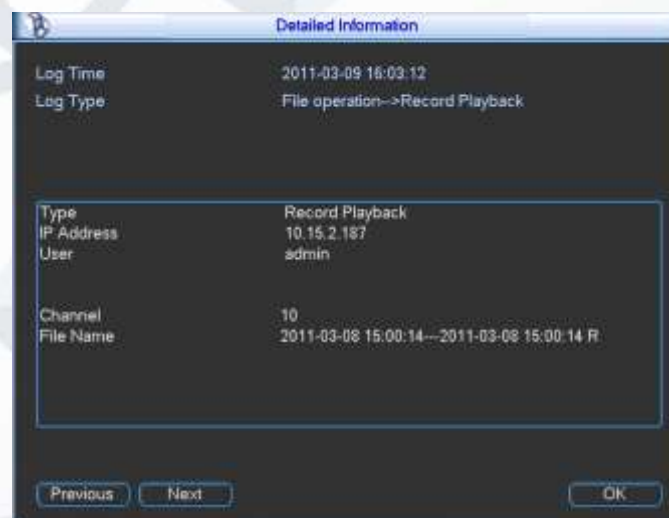

Figure 5-5
This section allows you to view the current video data stream (KB/s) and occupied hard disk storage (MB/h). See Figure 5-5.
- **Details:** Click the Details button or double click the log item, you can view the detailed information. See Figure 5-5. Here you can use rolling bar to view information, or you can use Page up/Page down to view other log information.
Click the Details button or double click the log item, you will view the detailed information such as log time, log type, log user, IP address, etc. See Figure 5-5.